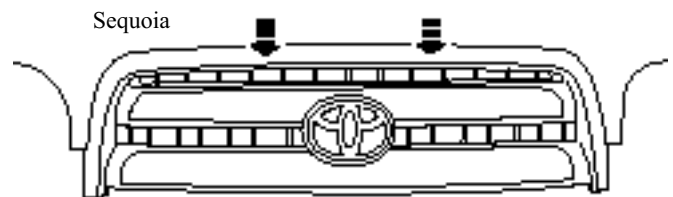
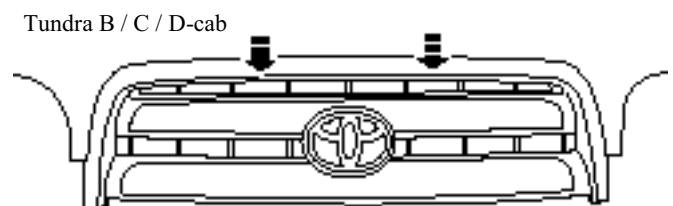
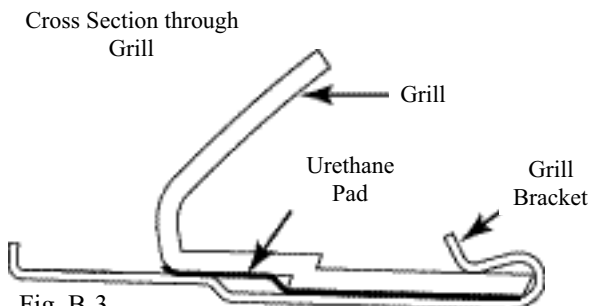

Fig. B-1
Fig. B-2
Fig. B-3
1. Install the two (2) large urethane pads to underside of grill.
i. **Sequoia:** Install the pads third slot from center on either side. Fig. B-1.
ii. **Tundra B / C / D-cab:** Install the pads second slot from center on either side. Fig. B-2.
i. **Sequoia:** Insert brackets into the third slot from center on either side. Make sure brackets are centered in the slot. Fig B-1 and Fig B-3.
ii. **Tundra B / C / D-cab:** Insert brackets into the second slot from center on either side. Make sure brackets are centered in the slot. Fig B-2 and Fig. B-3.